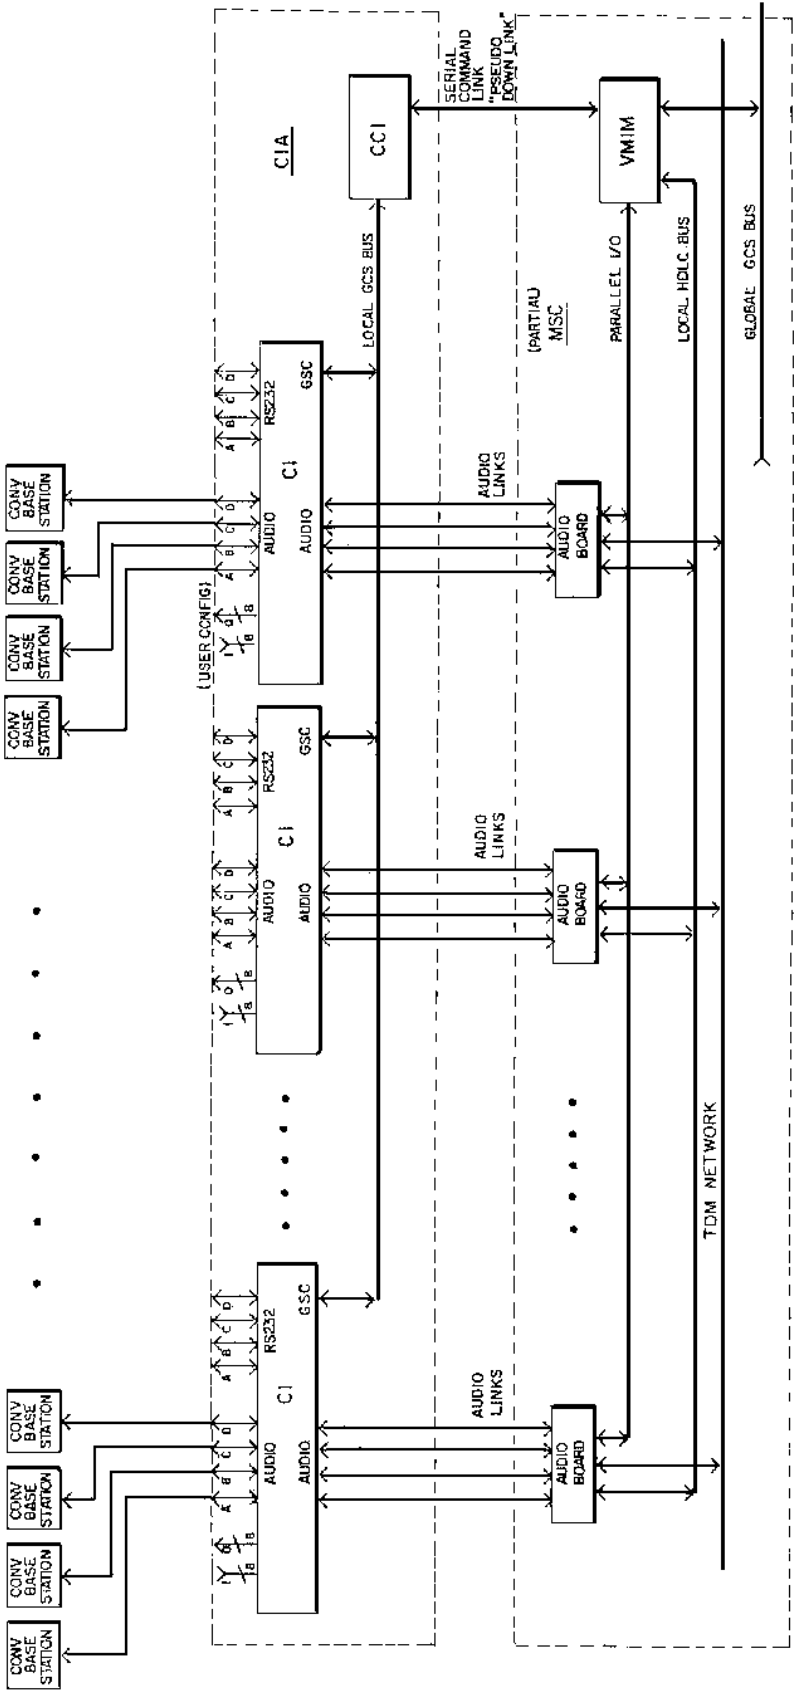

Figure 1 - Conventional Base Station Interface Block Diagram
When the Conventional Base Station Interface is used, the IMC is equipped with a **conVentional Multisite Interface Module (VMIM)** (refer to Figure 1). Figure 1 is a detailed Block Diagram showing a single node of a Conventional Interface Adaptor (CIA) and a **ConVentional MultiSite Interface Module (VMIM)**. The VMIM module is a standard IMC controller module. Each VMIM can couple thirty two (32) conventional stations to the trunked system using up to eight (8) audio boards.